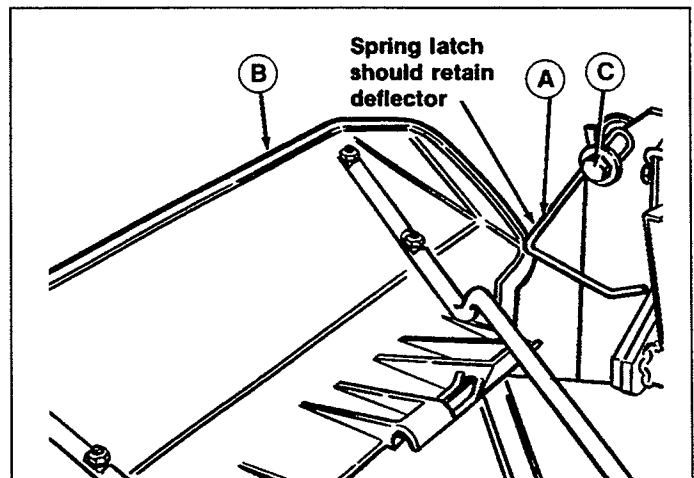

Figure 8. Mfg. No. 1691867 only.
See figure 8. Adjust spring latch (A) so it overlaps the top edge of deflector by 1/4" - 3/16", in the down position.